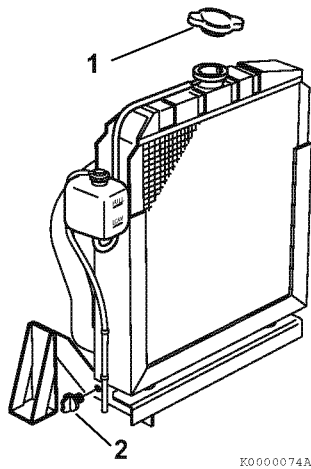

Figure 8-4
2. Remove the radiator cap (1, **Figure 8-4**).
3. Remove the drain plug or open the drain cock (2, **Figure 8-4**) at the lower portion of the radiator and drain the coolant.